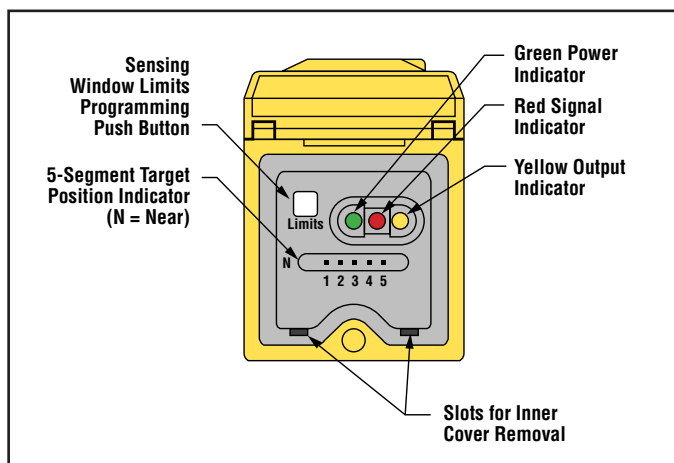
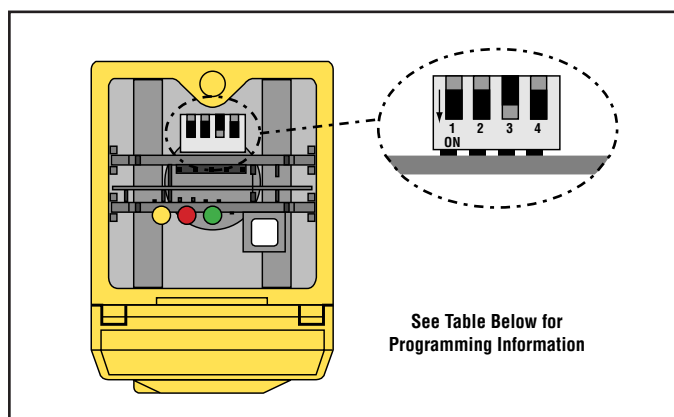

Figure 1. Q45UR controller features
Figure 2. Q45UR controller programming DIP switches (factory default settings)
The Q45UR controller features a single push button for programming the sensing window limits (Figure 1). The window limits may be set in one of two ways: programming two independent window limits, or defining a sensing distance set point, which will be centered within a window whose size is determined by the setting of DIP switches 2 and 3 (specific steps are described on page 3).
**Sensing Distance Set Point:** The sensor is taught the same set point for both window limits. This set point is centered within an overall window size of 1, 2, 3, or 4 mm (0.04", 0.08", 0.12", or 0.16"), determined by the DIP switch settings. DIP switches are located inside the controller, under the inner cover (Figure 1).
Using the two slots shown in Figure 1, a small flat-blade screwdriver may be used to lift up and remove the black inner cover to expose the 4-position programming DIP switch (Figure 2). These switches program the following functions: